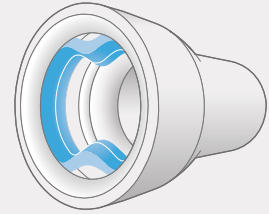

Figure 1
**NOTE:** Each of the following is a nationally recognized standards organization: American National Standards Institute (ANSI), American Water Works Association (AWWA), American Society for Testing and Materials (ASTM), Underwriters Laboratories (UL), National Fire Protection Association (NFPA), National Sanitation Foundation (NSF), Factory Mutual (FM)
**INSERTION OF GASKET (Figure 1)**
**NOTE:** Procedures outlined in figures 1–4 on page 4, showing the assembly of Tyton Joint Pipe, should be followed before proceeding with the methods shown below.